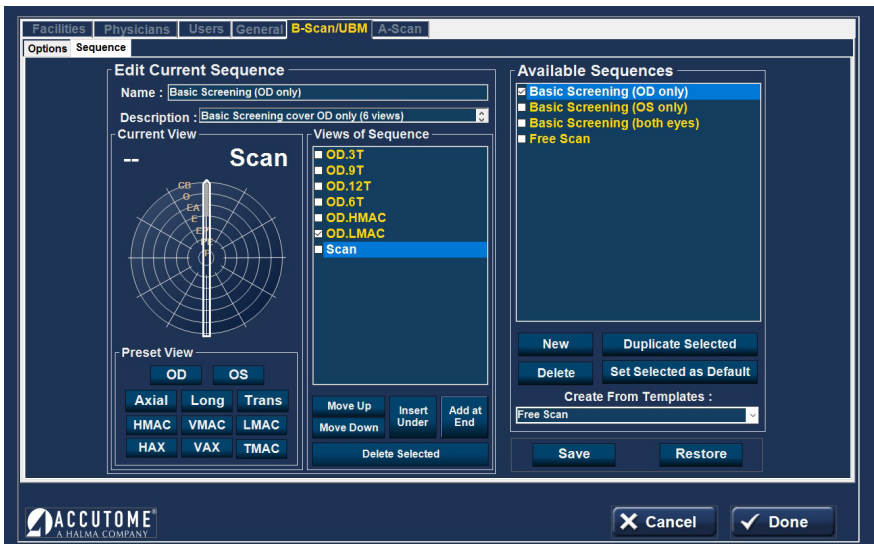

Figure 7.4 - Setup: B-Scan/UBM – Sequence – New Sequence Scan Added
**Probe positioning** for a scan is illustrated graphically by a wheel, representing the hours of the clock. There is an indicator with an arrow at one end that indicates the position and that can be dragged to edit the probe position. When you initially select the position wheel to edit the current view, the first scan defaults to the 12AX [Axial] probe position, with 12 being the 12:00 position as shown in figure 7.4.
2. The newly added sequence scan will display as Scan as shown in Figure 7.4.